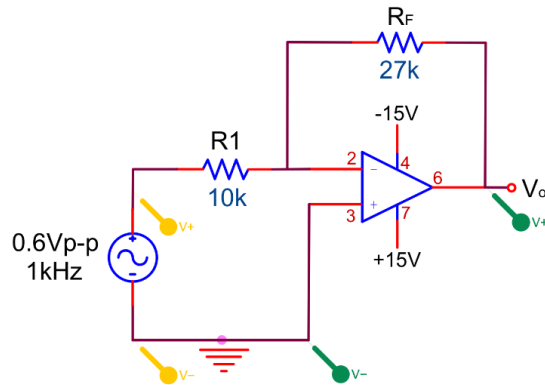

Figure 9.6
2. Construct the circuit in Figure 9.6. Record v_i and v_o ; compare it to the value calculated in the pre-lab. What is the phase difference between V_i and V_o ?